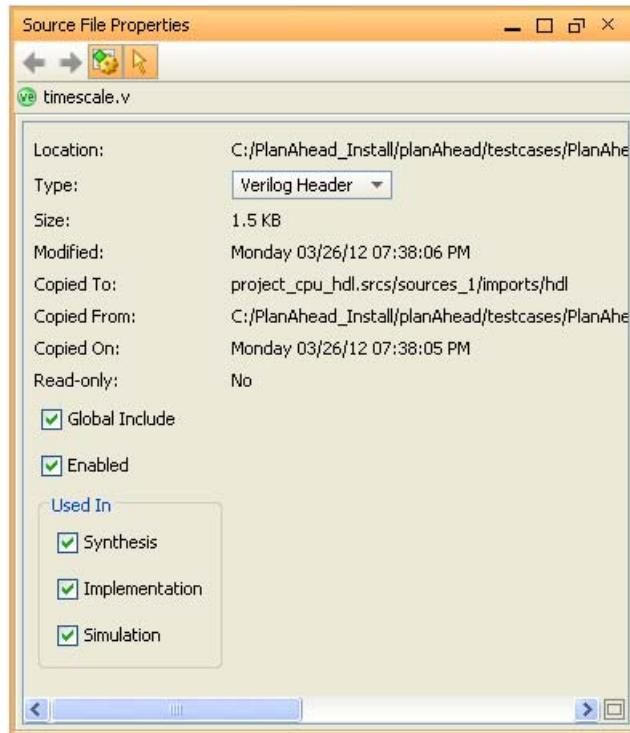

Figure 4-41: Viewing Modified Source File Properties
1. In the Sources view, select a source file and select the **Source File Properties** view. Figure 4-41, page 141 shows the Source File Properties view for a selected Verilog file.